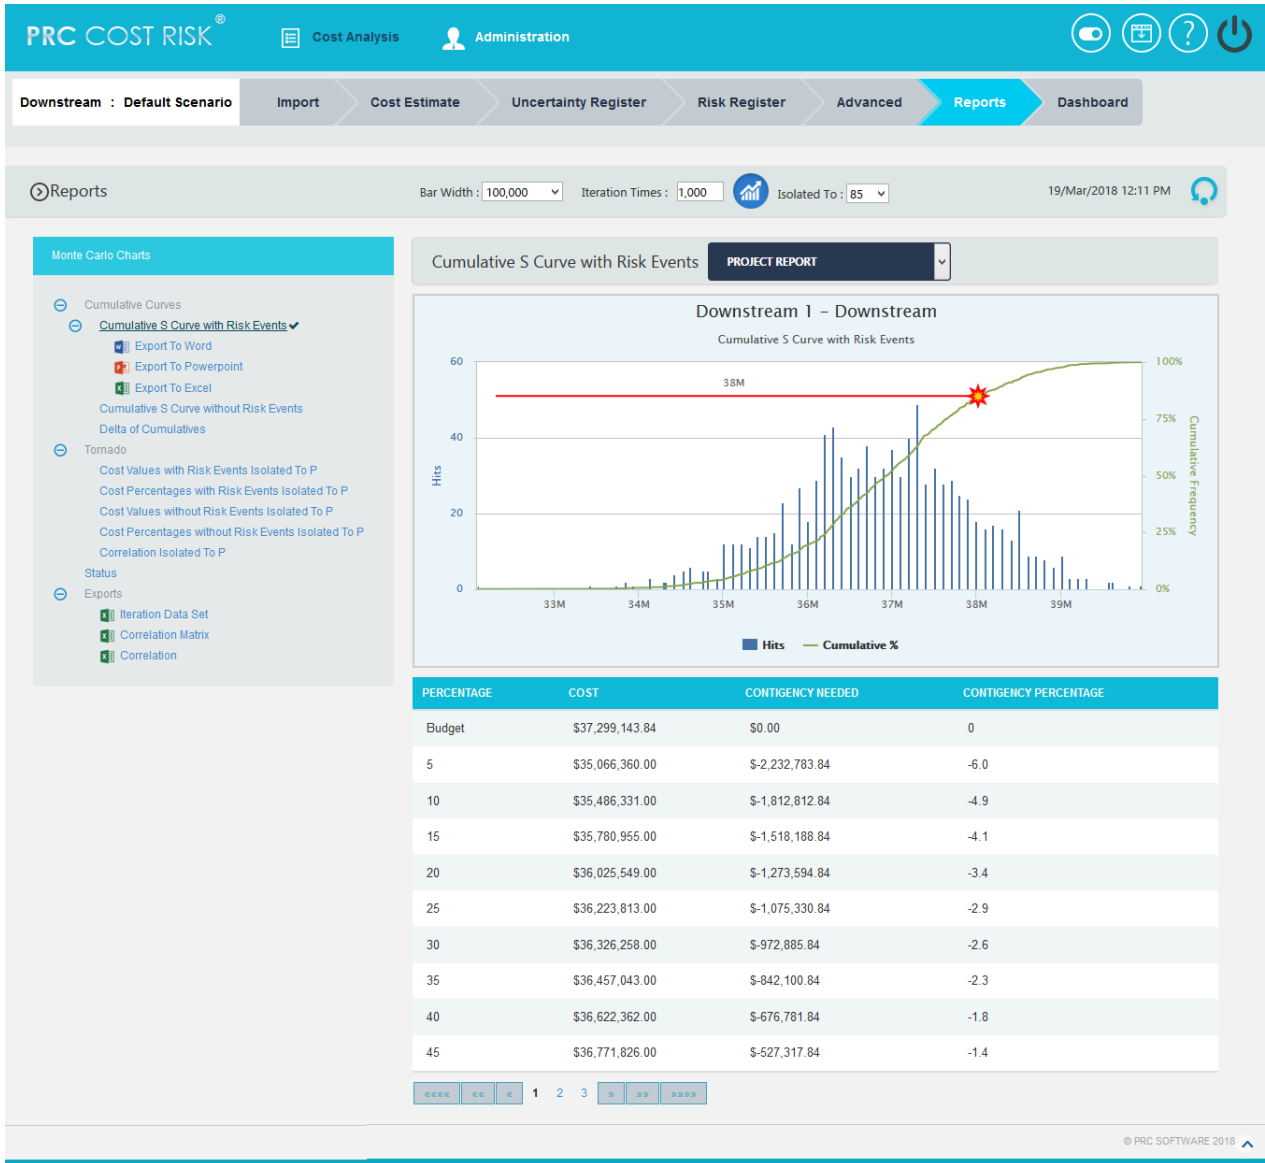
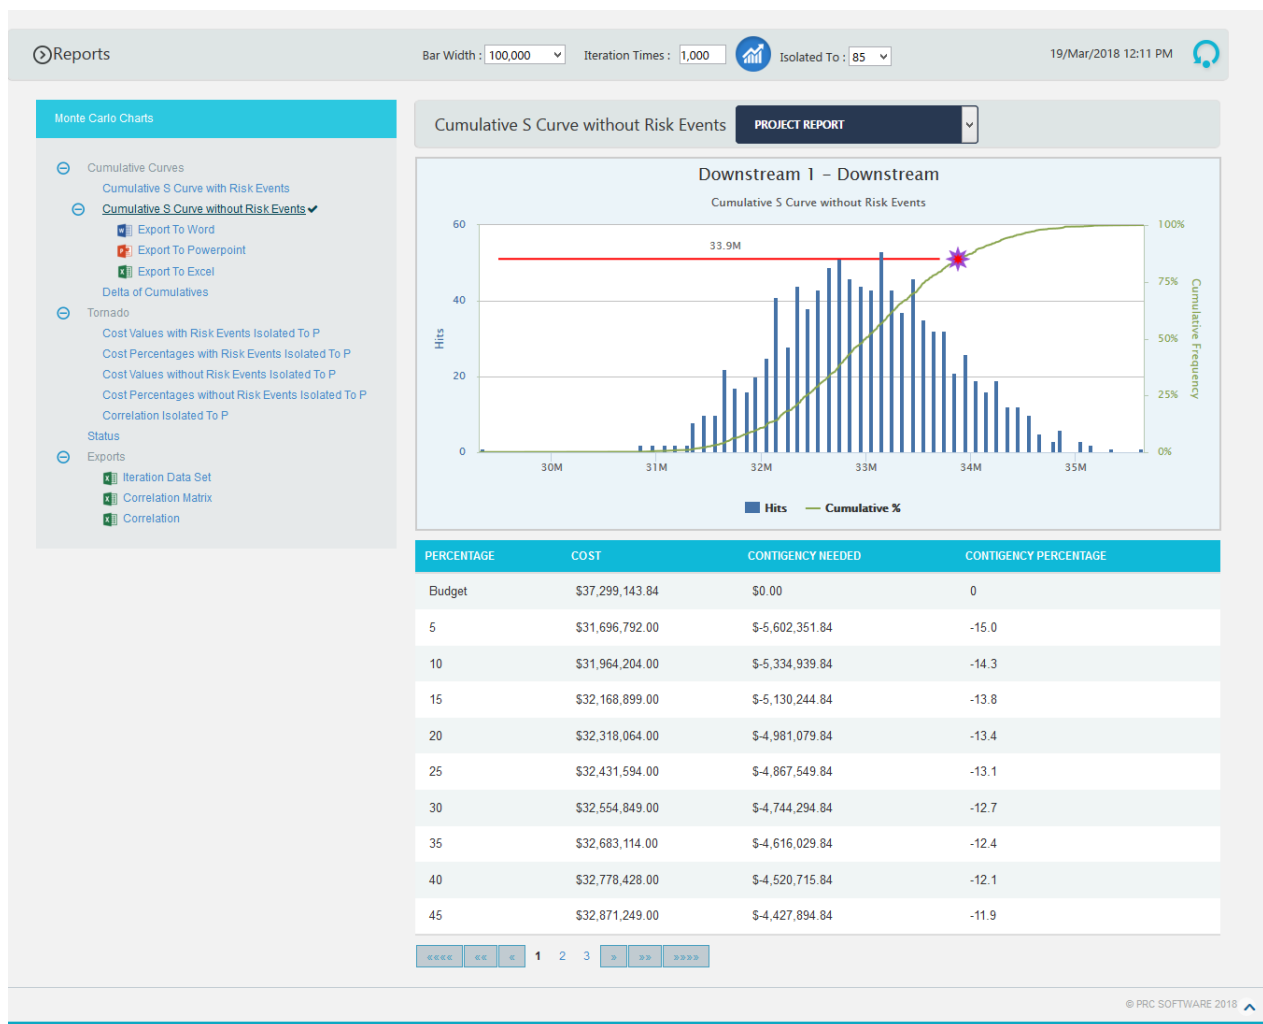
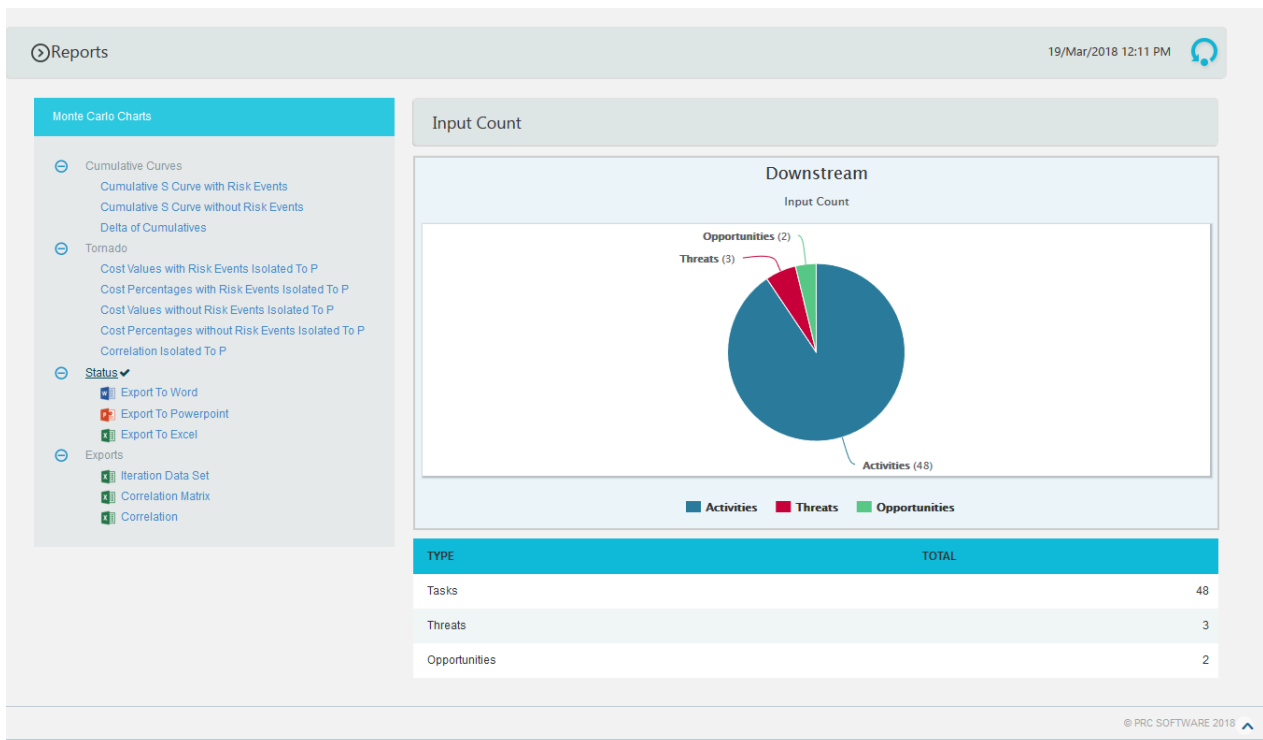

Figure 2.64
Figure 2.65
Figure 2.72
3. Select the **Bar width** and set the **Iteration Times** and then click **RUN ANALYSIS** icon. (Figure 2.65) The chart generated and the table is shown in the Figure 2.64
3. Select the **Bar width** and set the **Iteration Times** and then click **RUN ANALYSIS** icon. (Figure 2.65) The chart generated and the table is shown in the Figure 2.65
2. Click **Status** link under Monte Carlo Charts. (Figure 2.64) The chart generated and the table is shown in the Figure 2.72